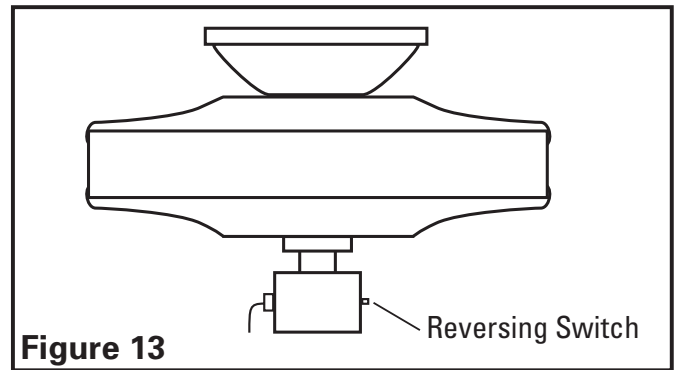

Figure 13
- If airflow is desired in opposite direction, turn your fan off and wait for the blades to stop turning, then slide the reversing switch (**Figure 13**) to the opposite position, and turn the fan on again. The fan blades will turn in the opposite direction and reverse the airflow.